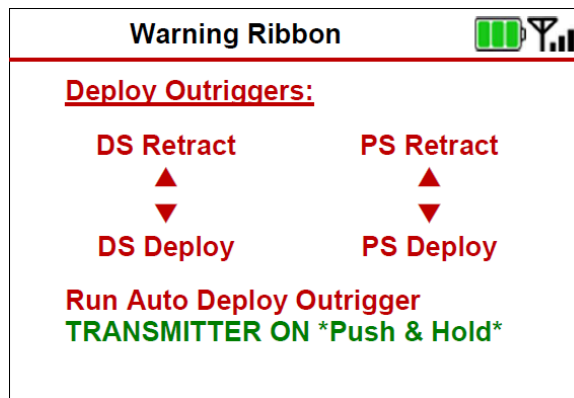

Figure 2-63
2.11.19.6 Deploy Outriggers Screen (Figure 2-63)